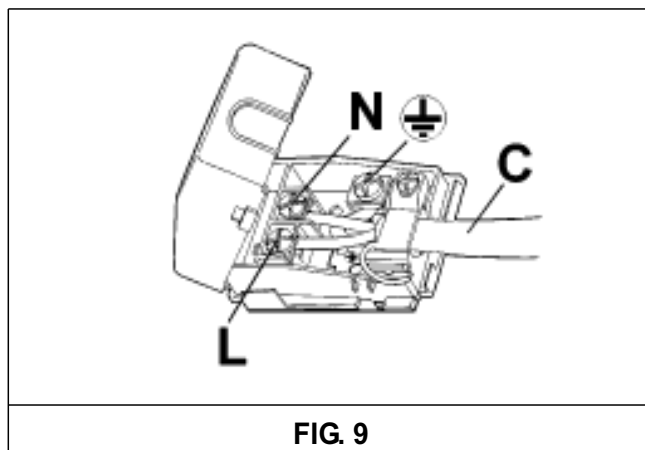

FIG. 9
- If a power cord is not supplied with the appliance, connect a cable with a suitable section to the terminal board (see table in paragraph 6) keeping the earth wire longer than the lead wires, following the diagram in fig. 9.
- apply to power cable "C", if not provided, a standard plug suitable for the load indicated on the information label. Connect the wires as in the diagram in fig. 9 taking care to observe the responses listed below: